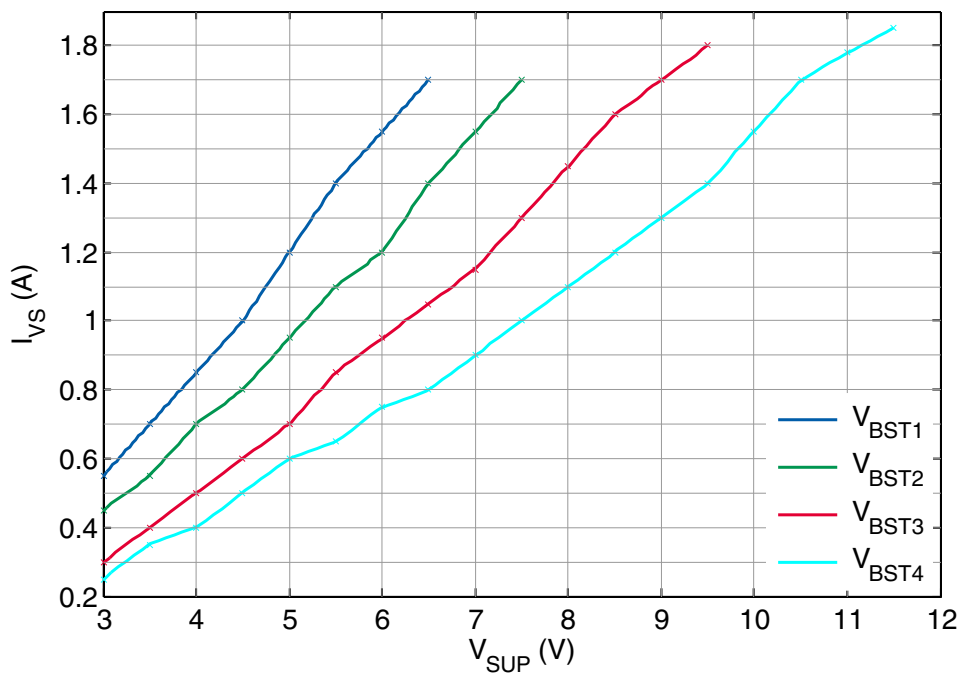

Figure 19 Maximum DCDC Boost current capability versus V_{SUP}
2) Values verified in characterization with Boost converter external components specified in Chapter 14.1. No subject to production test; specified by design. Refer to Figure 19 for additional information.
Note: **Figure 19** is based on simulation results (specified by design), with Boost converter external components specified in Chapter 14.1.